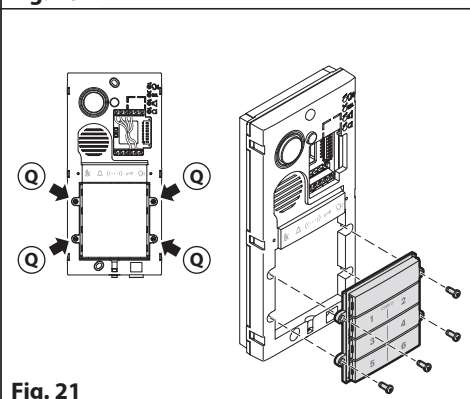

Fig. 21
3. **For the code lock configuration:** remove the four screws (Q) and replace the whole nameplate frame with the code lock frame provided. Make the appropriate dip-switch settings (Fig. 21).